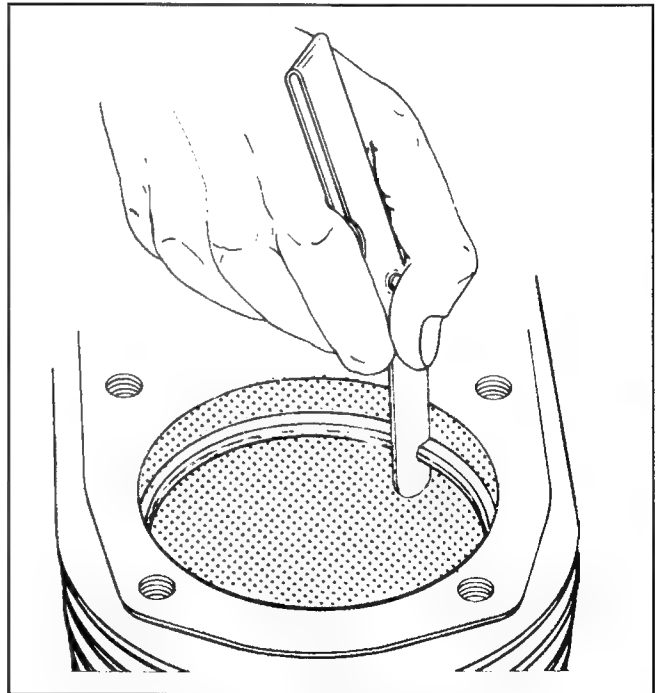

Figure 10-9. Measuring Piston Ring End Gap.
4. Before installing the rings on piston, place the top two rings, each in turn, in its running area in cylinder bore and check end gap (see Figure 10-9). Top ring end gap is **0.180/0.380 mm (0.0071/0.0150 in.)**. Middle ring end gap is **0.180/0.440 mm (0.0071/0.0173 in.)** for TH16 and **0.180/0.450 mm (0.0071/0.0177 in.)** for TH18.